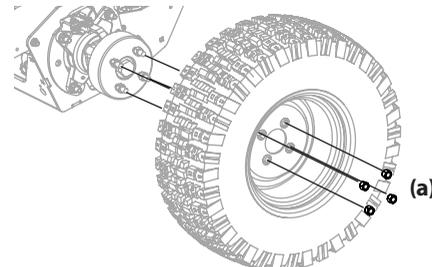

Figure 34
1. With the tires on the ground, loosen, but do not remove the four lug nuts (a) (Figure 34).